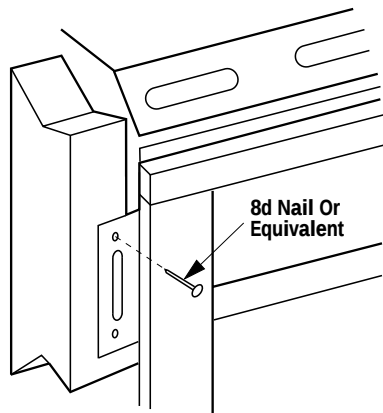

Figure 17
Step 4. Fireplace should be secured to side framing members using the nailing tabs at the top and bottom of the fireplace front face. Use 8d nails or equivalent (**Figure 17**).